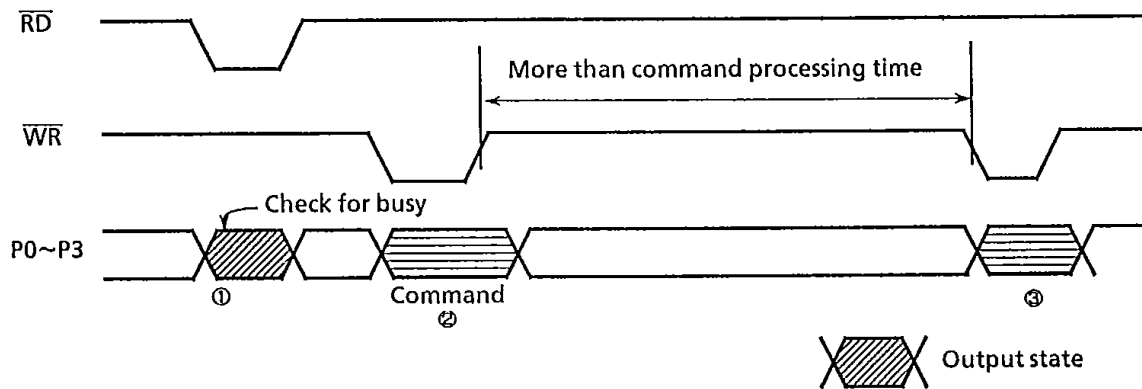

Fig.5.12 How to write command
As shown in Fig. 5.12, ① using  $\overline{RD}$  pulse, read status from TC8830AF and check BUSY flag ② If not busy state, after setting up command in P0~P3, write a command using  $\overline{WR}$  pulse. In case of such 3 nibble commands as LABEL, keep at command processing time ( refer to section 5.2.5 ), ③ write the 2'nd and 3'rd nibbles.